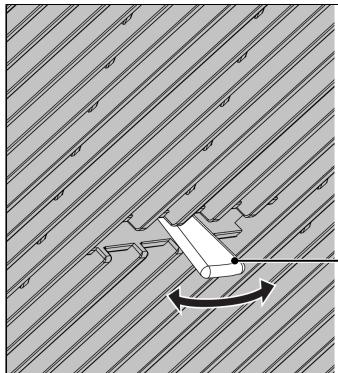

Figure 32.
2. Adjust the louvers by moving the handle left/right (Figure 32, pos. 1) to change the wind direction.